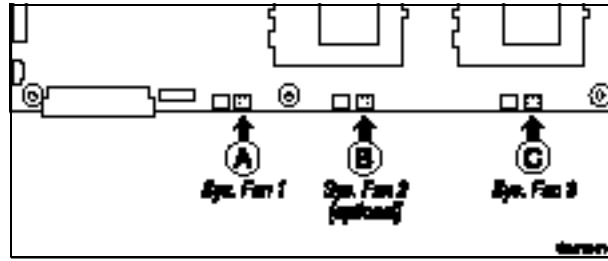

Figure 15. Connecting Fans to the Server Board
5. Connect the fan power cables to the server board at the system fan connectors (Figure 15).